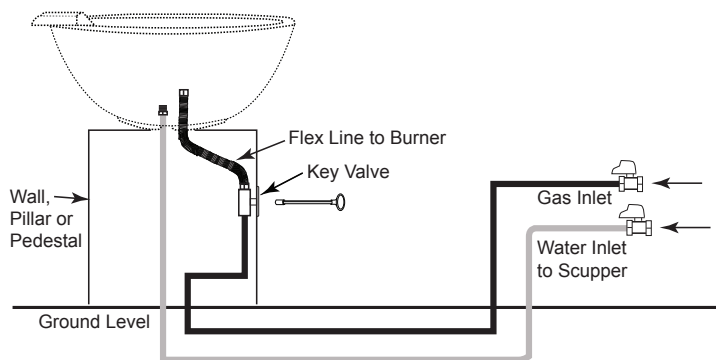

Fig. 6 Water and gas line diagram.
- Gas and water lines should be centered in the middle of the column, pedestal, or location the bowl will be placed. See Fig. 6.